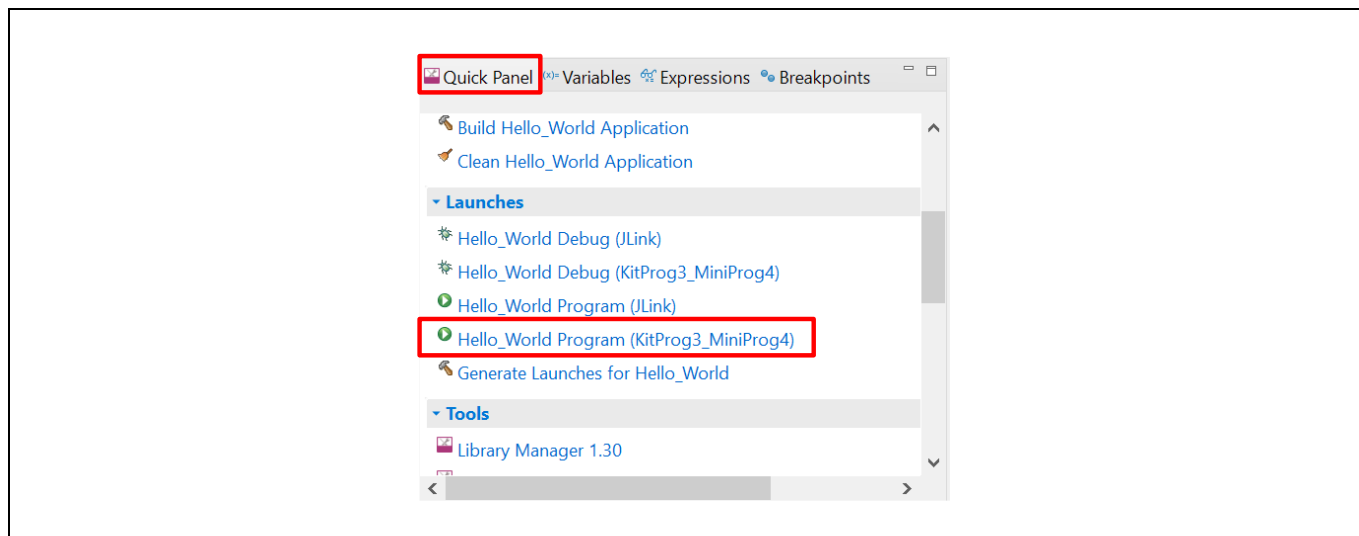

Figure 14 Programming in ModusToolbox™ software
- To build and program a PSoC™ 6 MCU application, in the Project Explorer, select **<App_Name>** project. In the Quick Panel, scroll to the Launches section and click the **<App_Name> Program (KitProg3_MiniProg4)** configuration as shown in **Figure 14**.